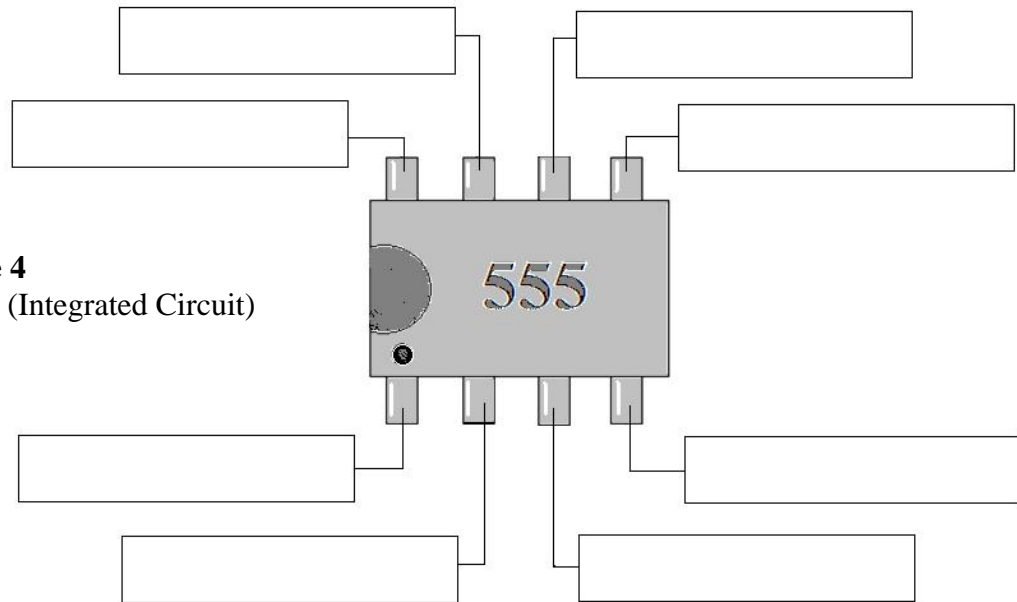

Figure 4
15. Figure 4 shows a 555 IC. Fill in each box by using the following inputs and outputs, and indicate the function of every pin.